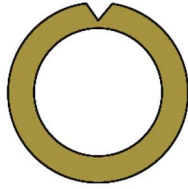

Figure 1
- **Step 1** Using a sharp hobby knife, cut a "V" notch in the outside diameter of the TB-5 thrust block, as shown in Figure 1. Be careful not to slice completely through the ring (or your finger...).